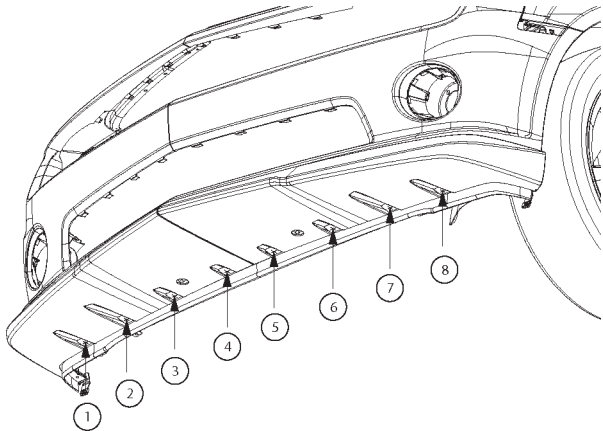

FIGURE 38
15. Use the 8 cross hairs on the rear edge of the cladding as a guide, drill 1/4" holes through the cladding & vehicle fascia. Refer to figure 38.